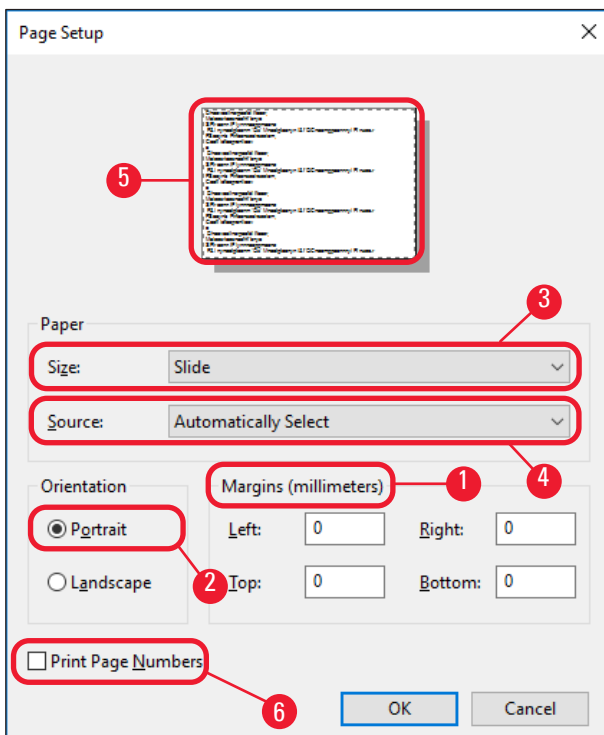

Fig. 42
3. First, the page settings must be selected: Click on **File > Page Setup** to open the **Page Setup** dialog box (→ "Fig. 42").